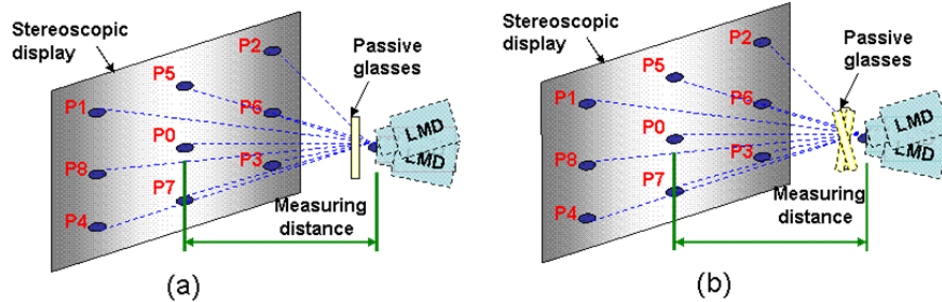

Figure 3
4.2.1 *3D angular luminance uniformity* — LMD is positioned along the normal line of the center of screen at measuring distance. Then focus on each selected points at corresponding angles, and take the luminance by LMD, as shown in Figure 3. Configuration 'a' is rotate LMD with passive glasses fixed as shown in Figure 3 (a), while configuration 'b' is synchronized rotate LMD and passive glasses in Figure 3 (b).